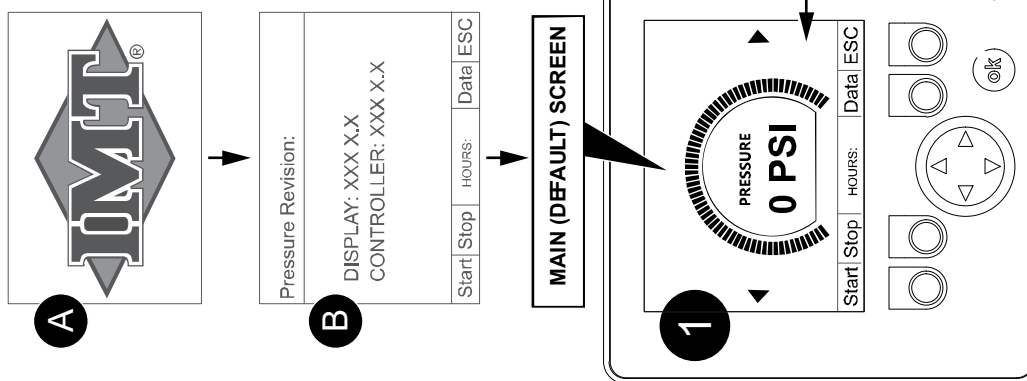

Figure 4-5: Controller Screen Identification and Navigation
9. Refer to **Figure 4-5**. Press the START button on the Controller, and wait for the Main Screen (default is the Pressure Screen). Check pressure and temperature screens. Pressure may need adjustment to achieve desired operating pressure. Refer to **Section 5, Table 5A: Routine Maintenance Schedule**.